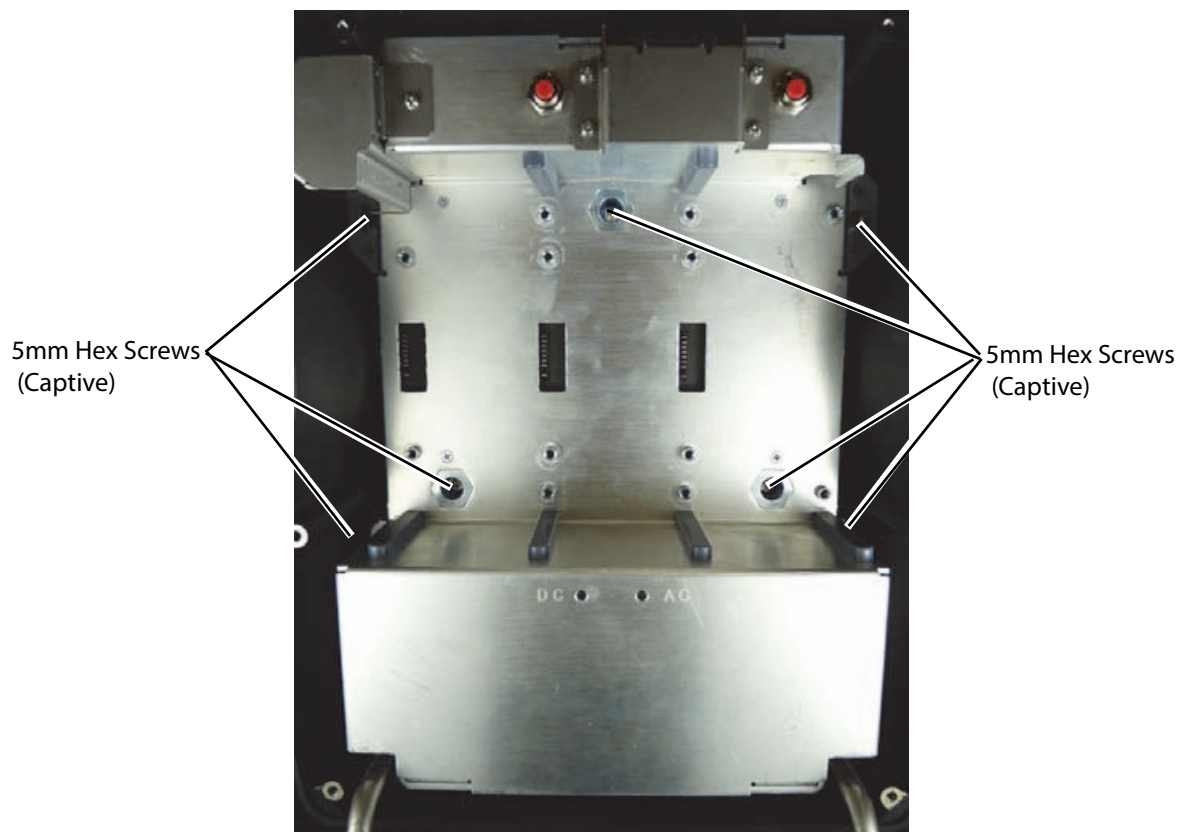

Figure 6.11 SPMU Mount
- 14 Loosen the seven captive 5mm hex head screws securing the SPMU to the bottom of the stand and pull away from the stand. Considerable effort is needed to break the adhesion caused by the gray thermal pad sandwiched between the heat sink of the SPMU and the bottom of the stand. Refer to Figure 6.11 on page 43.